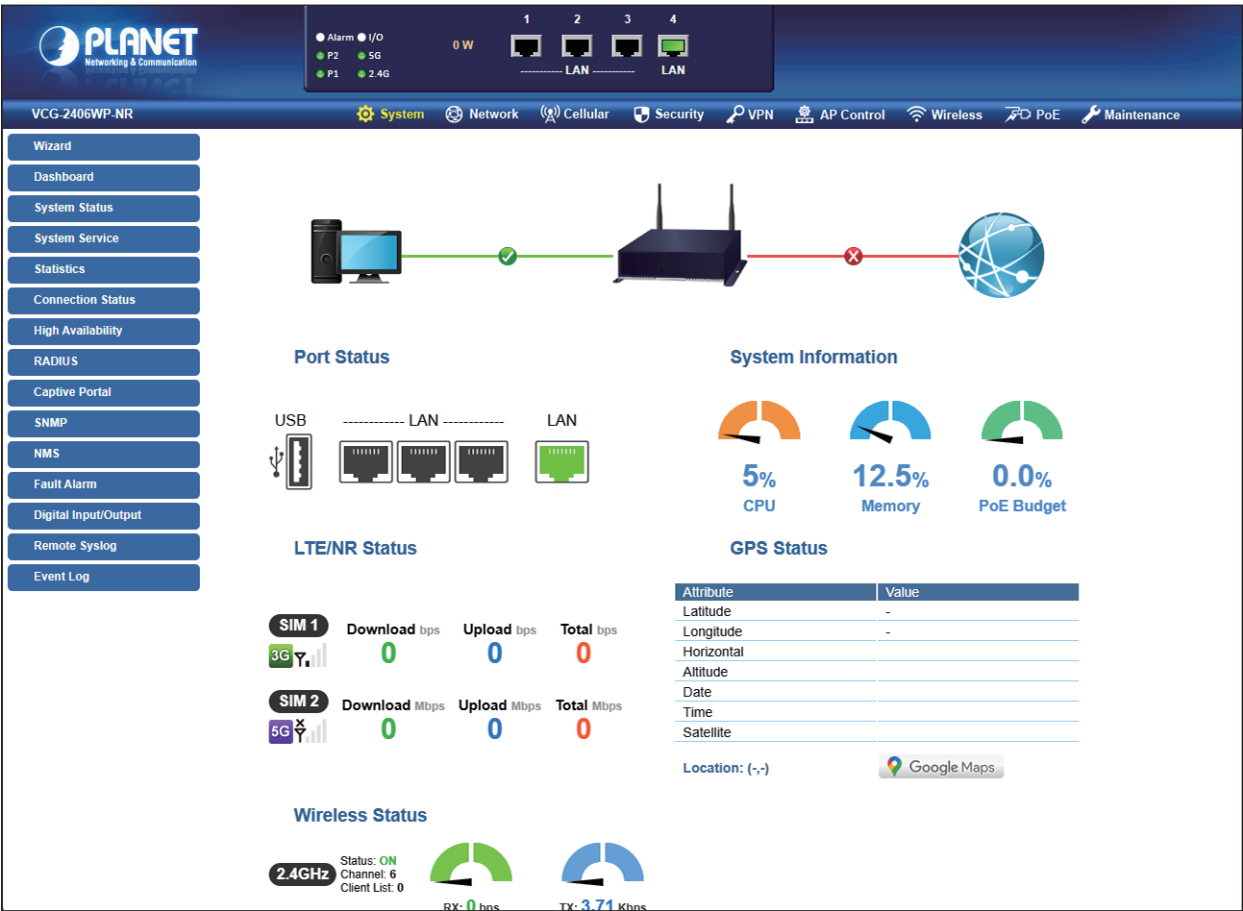

Figure 4-4: Web-based Main Screen of Cellular Gateway
4. After entering the password, the main screen appears as shown in Figure 4-4.